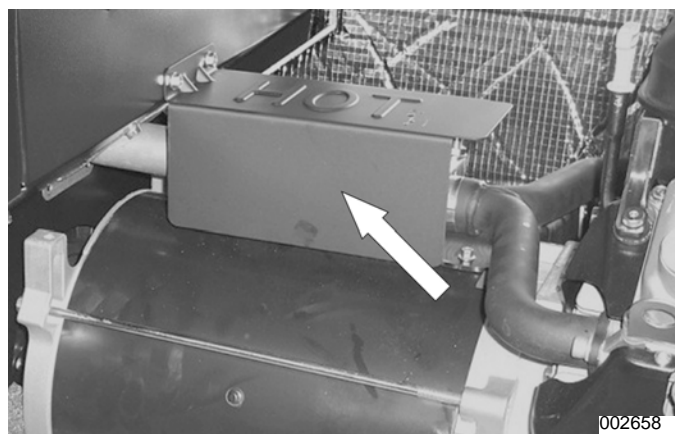

Figure 5-48.
3. **Remove Exhaust Flex Cover:** See Figure 5-48. Use a 10 mm socket to remove the two bolts from the exhaust flex pipe cover. Remove the cover.